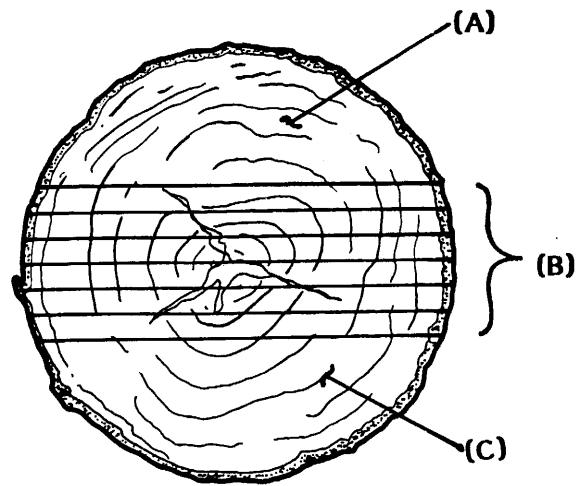

FIGURE 1
We have found commercial quartersawing of logs to be simple and fast on the Wood-Mizer®. Judgement as to where the first cut should be made depends on the shape of the log (oval, square, or round) and as such is arbitrary. Seeing that this method results in the best quality lumber, we felt you would be interested in the approach we use. Referring to the sketches below, **Figure 1** shows an end view of a log we will say is 17 inches in diameter. The first cut is made 11½ inches above the bed. The top cant (A) is laid to the side and six cuts of one inch (B) are made and those boards laid aside. The remaining cant (C) is rotated 90° (See **Figure 2**) and boards are cut starting 13 inches from the bed down to 3 inches (boards D). These boards are acceptable as commercial grade quartersawn lumber. The two boards above and below are plain sawed. The boards (D) are then placed vertical and edged (Figure 3), and cant (A) is processed in like manner. Boards (B) are then mounted vertically, sliced through the center (**Figure 3**), and edged (**Figure 4**). Using this approach, 60 to 70 percent of a good log can be converted into the most valuable of lumber rapidly and effectively.